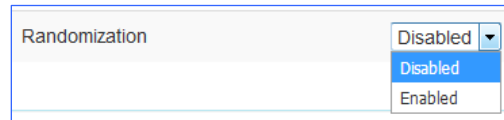

Figure 253: Data Generator, Randomization Drop Down Menu
- Randomization – Enable or disable IRIG 106 15-bit randomization, as shown in Figure 253; *not recommended for PN15 data*, due to potential conflict between the sequence generator and the randomizer, both of which are based on the same generator polynomial